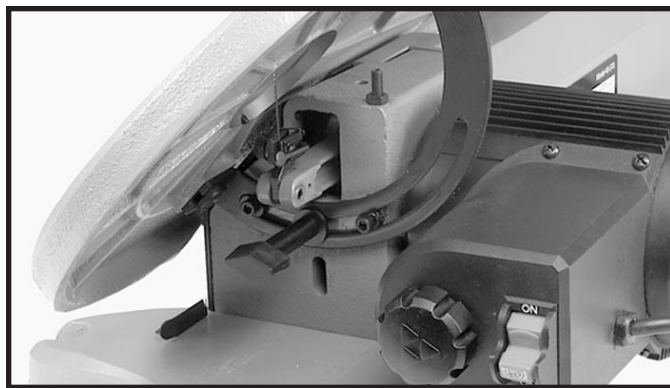

Fig. 28
1. Tilt the table 45° to the left as shown in Fig. 28.